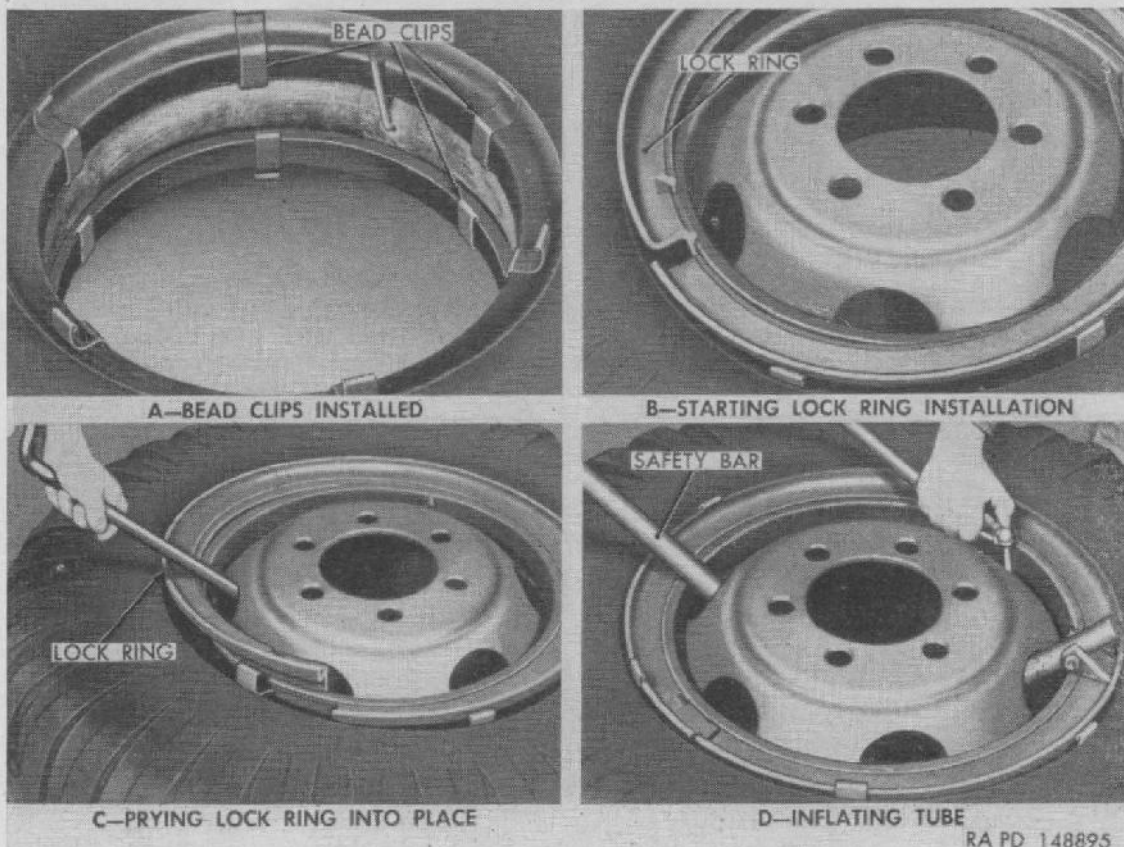

Figure 142. Installing tire.
- (2) Install tube and flap in tire, with valve stem inserted through hole in flap. Place bead clips on tire beads, six on each bead (A, fig. 142). Spaces between clips should be equal within one inch.
- (3) Lay wheel on floor, lock ring side up. Place tire and tube over wheel rim, forcing valve stem down and inserting it through hole in rim as tire is lowered into place.
- (4) Place lock ring on tire with split in ring opposite valve stem. Force toe of lock ring between tire bead and rim at one end and seat heel of lock ring in rim gutter (B, fig. 142).
- (5) Using tire tool in wheel spoke openings, work progressively around wheel prying lock ring down into rim gutter (C, fig. 142). Make sure lock ring is fully seated all the way around.
- (6) Before inflating tube, place safety bar (D, fig. 142), through wheel spokes to prevent lock ring from blowing off in the event it is not fully seated.